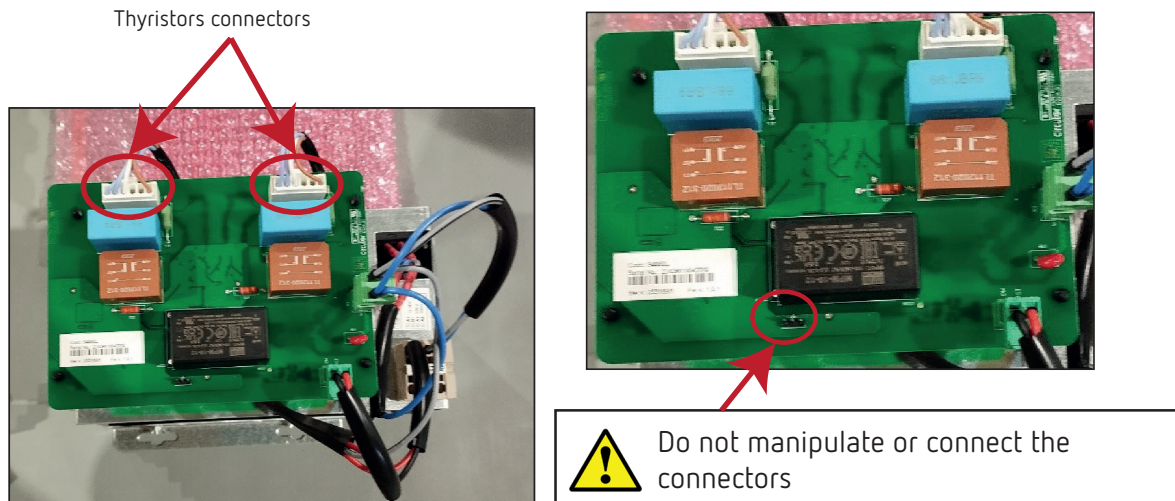

Figure 4: Step 4.
4.- Connect the connectors on the thyristors to the PCB, Figure 4.